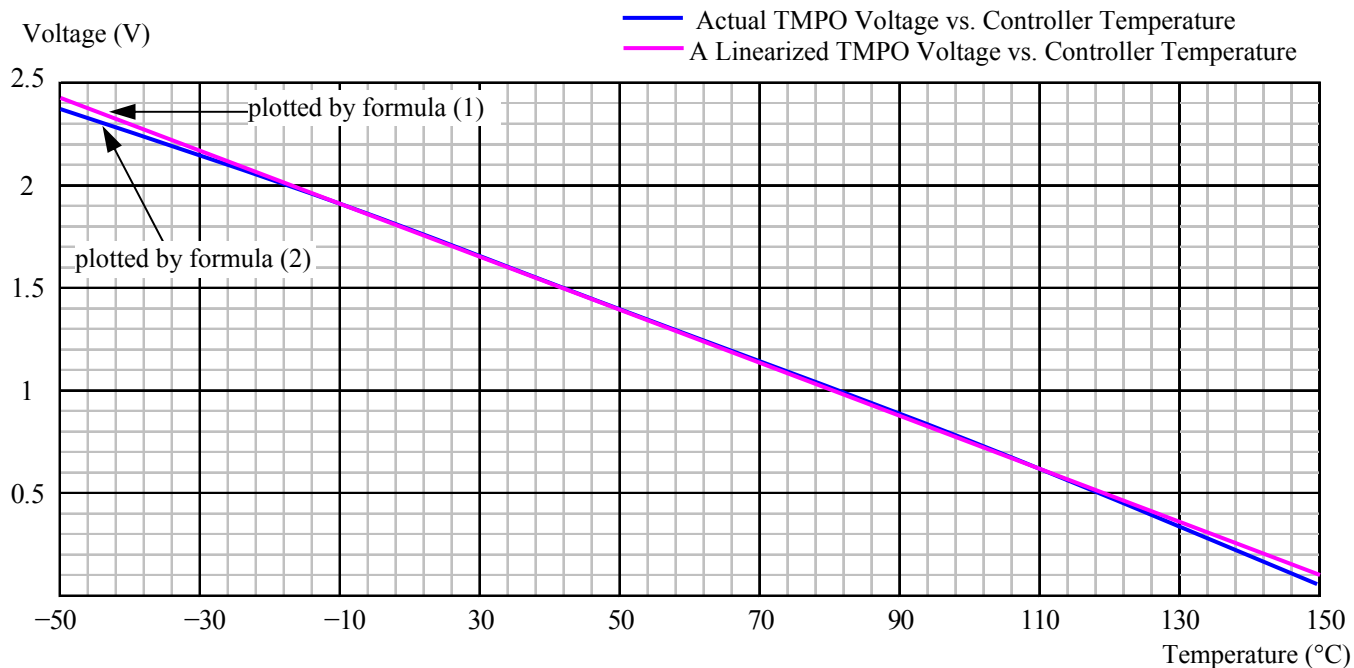

Figure 10. Controller Internal Temperature vs. TMPO Voltage
Within the most commonly used temperature range of between $0^{\circ}C$ to $100^{\circ}C$, the maximum error occurs at about 1.5V, at which the temperature error between the calculated data by using the formula (1) and the approximated data obtained by using the linear equation (2) is about $0.4^{\circ}C$, with the linear data being a little lower. The curves of the 2 sets of the data are plotted in Figure 10.